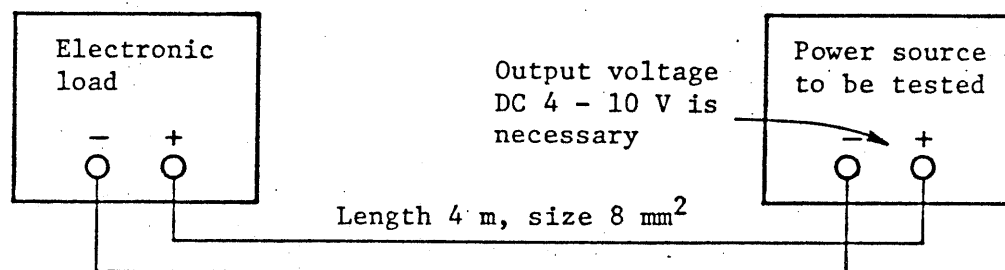

Figure 2-1-4
- ⑮ C.C RANGE. Switch to change the range for constant current mode.
- ⑯ FUNCTION. Either of the following four constant current modes may be selected: EXT (External Voltage Control), INT (Manual Control), SW (Switching Operation), and DC (DC Operation).
- ⑰ PRESET. By depressing this switch, current value or resistance value will be indicated on the digital ammeter depending on the state of the mode switch. At the constant current mode, current value may be preset by either CURRENT I or CURRENT II dial which is selected by the manual switch. At the constant resistance mode, resistance value may be preset by the CURRENT/RESISTOR dial.
- ⑱ PRESET W INPUT POWER. Loading power (watt) is indicated on the voltmeter while power limit value is indicated on the power indicator.
- ⑲ POWER LIMIT. Semi-fixed adjuster to change power limit value. The value may be set by use of the power indicator while depressing PRESET W switch.
- ②① CURRENT MONITOR. Current monitor terminals (10 mV/A). At the switching mode, current wave form and switching frequency and duty may be adjusted through an oscilloscope.
- ②① DC INPUT. Black panel input terminals installed in parallel connection to DC INPUT terminals on the front panel. The highest range of the constant resistance mode may be set at 100 to 1000 Ω by combination of the short pieces, $\times 10$ and $\times 1$.
- ②② 120 V AC 50/60 Hz. Power supply cable.
- ②③ Fan Blowout Opening. Air blowout opening of clean package. Do not place anything sensitive to heat around the unit, since hot air is expelled. Also, be certain to place the unit at a distance of 30 cm or more from the wall.
- ②④ Terminal Base. The terminal base is installed for external controls. (See Fig. 2-1-4). Terminals for the following operations are installed: External voltage control and resistance control under the constant current mode; external voltage control, sensing and one-controlled parallel operation; sensing under the constant voltage mode; and external control of the LOAD switch.
- ②⑤ Option Unit Installation Holes. Screwed holes for installing the DPO series (Digital Programmable Options).